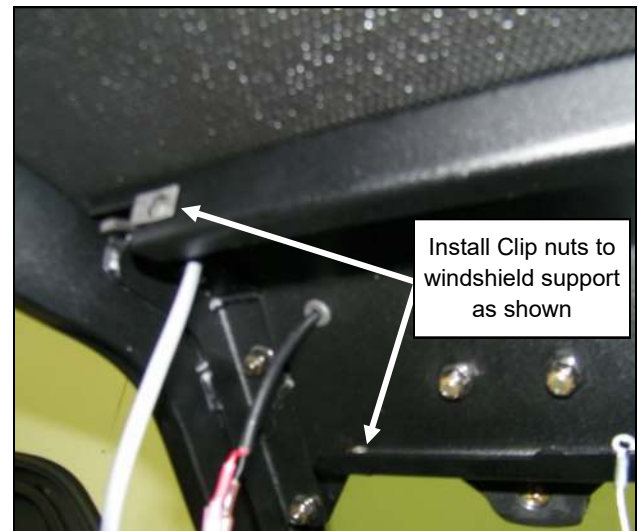

Fig. 3.1
- 3.1 Install a 1/4-20 clip nut (4 total) into the slots and holes at the corner of each flange of the windshield support. See figure 3.1.